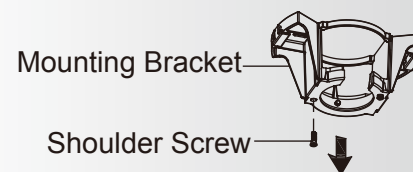

Fig. 13
**Step 1.** Remove one of the two shoulder screws in the mounting bracket. Loosen the second shoulder screw without fully removing it. (Fig. 13)